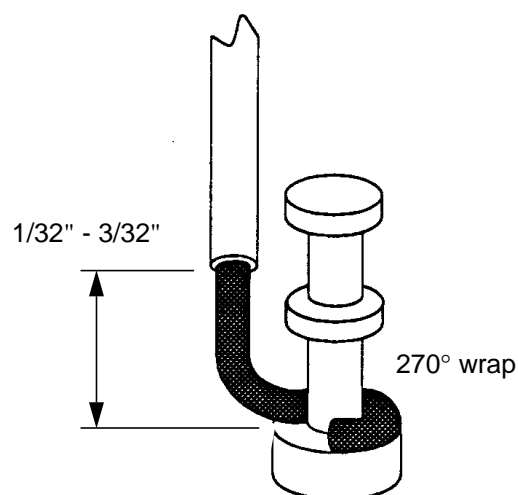

Figure 5 - Mechanical Hook-Up of Turret Terminals
- 5.10.1 Wrap wire ends approximately 270° around the post without extending below the terminal base or flange (see Figure 5)